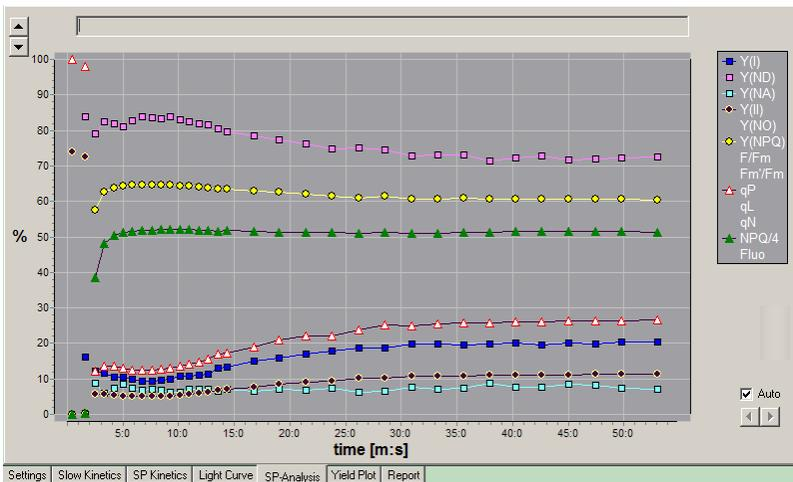

Fig. 26 Induction Curve, Saturation Pulse Analysis
In the SP-Analysis window of the Dual-PAM (Fig. 26) the automatic data analysis of the Saturation Pulse responses is displayed. The rise in CO₂-Assimilation measured with the GFS-3000 corresponded to the rise in Y(I), Y(II) and qP and a drop in Y(ND) and Y(NPQ) measured with the Dual-PAM.